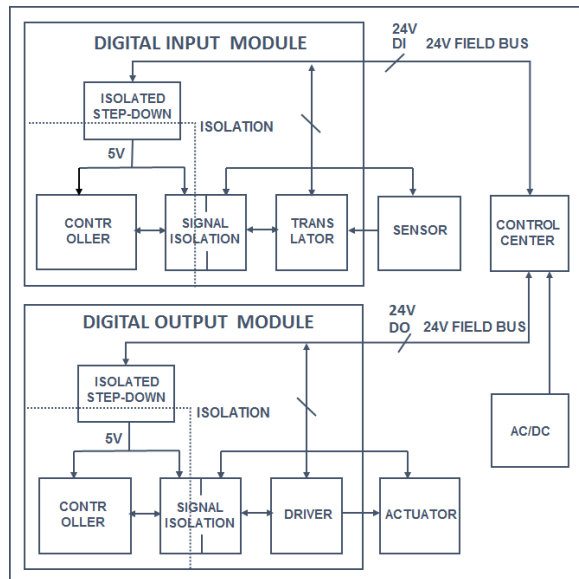

Figure 2. Digital I/O Module System Block Diagram
A single module can have up to 64 channels and a factory floor may utilize several modules. Figure 2 illustrates a generic digital I/O module system block diagram. A central hub takes the AC line power and converts it to 24V DC, delivered to the I/O modules together with the corresponding input (DI) and output (DO) data. The factory environment is harsh, with electric and magnetic interference and over-voltages, requiring protection for sensitive electronics.